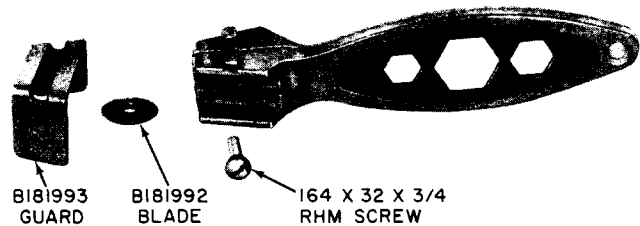

Fig. 2—Replacement Parts for C Braid Stripper
4.01 The following replacement parts (Fig. 2) are available for the C braid stripper: